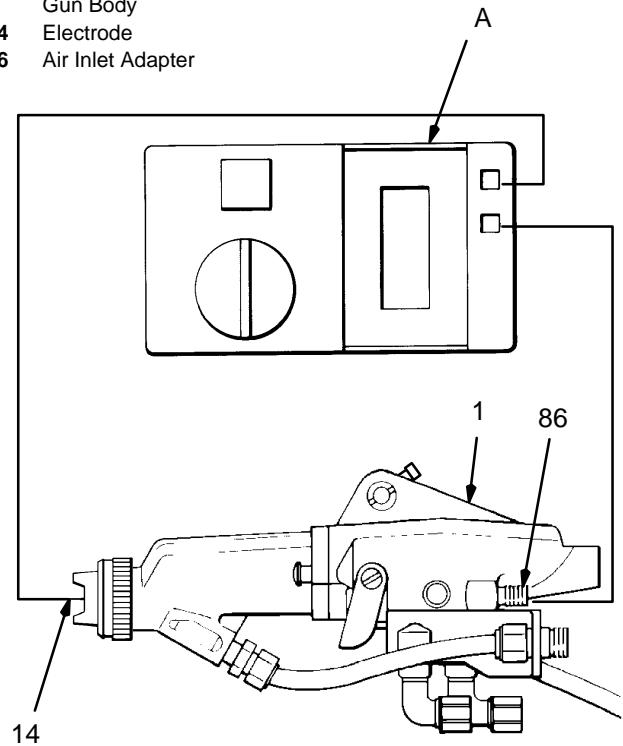

Fig 7
Measure the resistance between the end of the electrode (14) and the gun air inlet adapter (86). See Fig 7. The resistance should be between 115 to 152 megohms. If the resistance is outside the specified range, go to the next test. If the resistance is correct, refer to the **Electrical Troubleshooting Chart** on page 15 for other possible causes of poor performance.